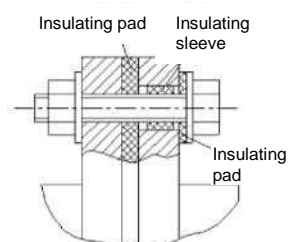
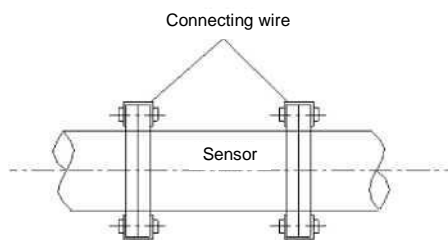

Figure 15: Insulating sleeve and pad
Figure 16: Sensor connection
- In a metal piping system, the connection of the sensor to an adjacent pipe enables the instrument to obtain the potential of the measured fluid, as shown in Figure 15. In this connection, the current flowing through the sensor body should not 10A (effective value). Bolts should not be used instead of equipotential connections in flange installation. Equipotential connections must be added as shown in Figure 16